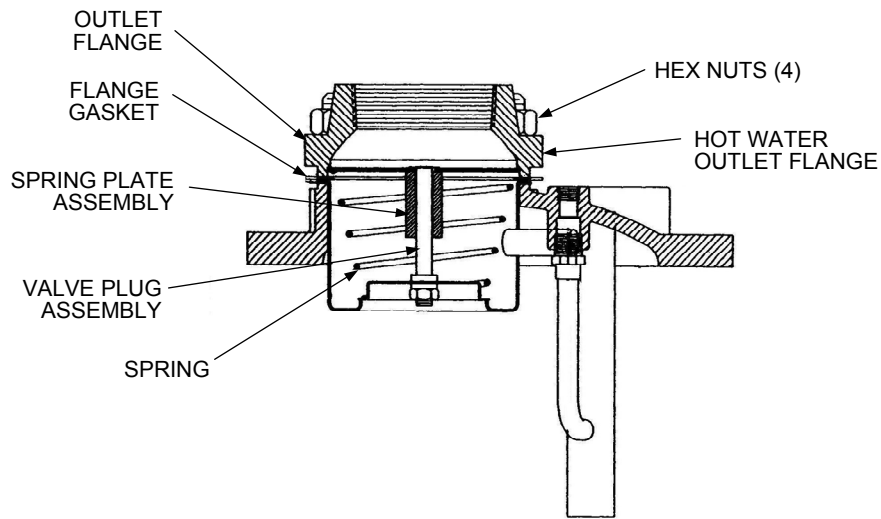

Figure 2-3. Anticipator Check Valve (Load Alert) Assembly
- (b) Refer to Figure 2-3. Remove the four hex nuts securing the hot water Outlet Flange to the Top Head. Remove the Flange, Flange Gasket and outlet piping connected to the Flange. Retain the four hex nuts for reinstallation of a new Outlet Flange (Section 4).